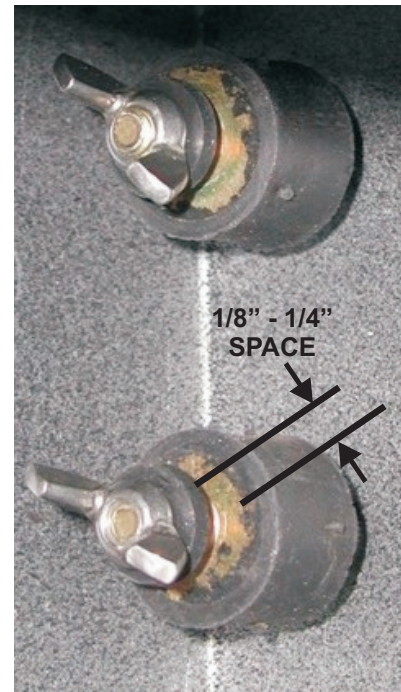

Figure 6
3. Pre-install a rubber washer and 1/4-20 Wing-nut to each of the two blower mounts studs at the left side, as shown in Figure 6. Only start the wing-nuts onto the studs with approximately 2 threads or turns. This should leave an 1/8 - 1/4" space between the rubber washers and the face of the blower mounts.